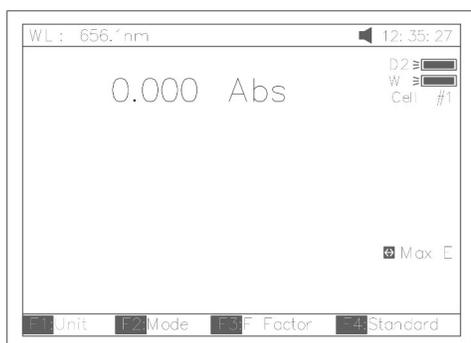
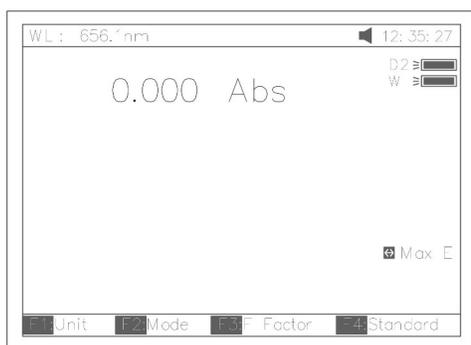

Fig18
Fig19
**【1】** to enter “Basic mode” test . After automatically blanking, it will display as Fig 18 (automatic changer installed) or Fig 19 ( automatic changer uninstalled) and wait for the operator.
Note: If no automatic changer installed “cell #1” and “Max E” will disappear in Fig18